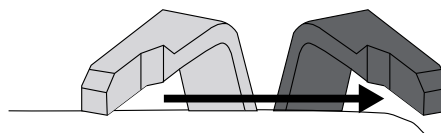

Figure 12 - Choke Lever - OFF
7. As the engine starts and stabilizes, gradually move the choke lever back to the OFF position (see Figure 12 below).